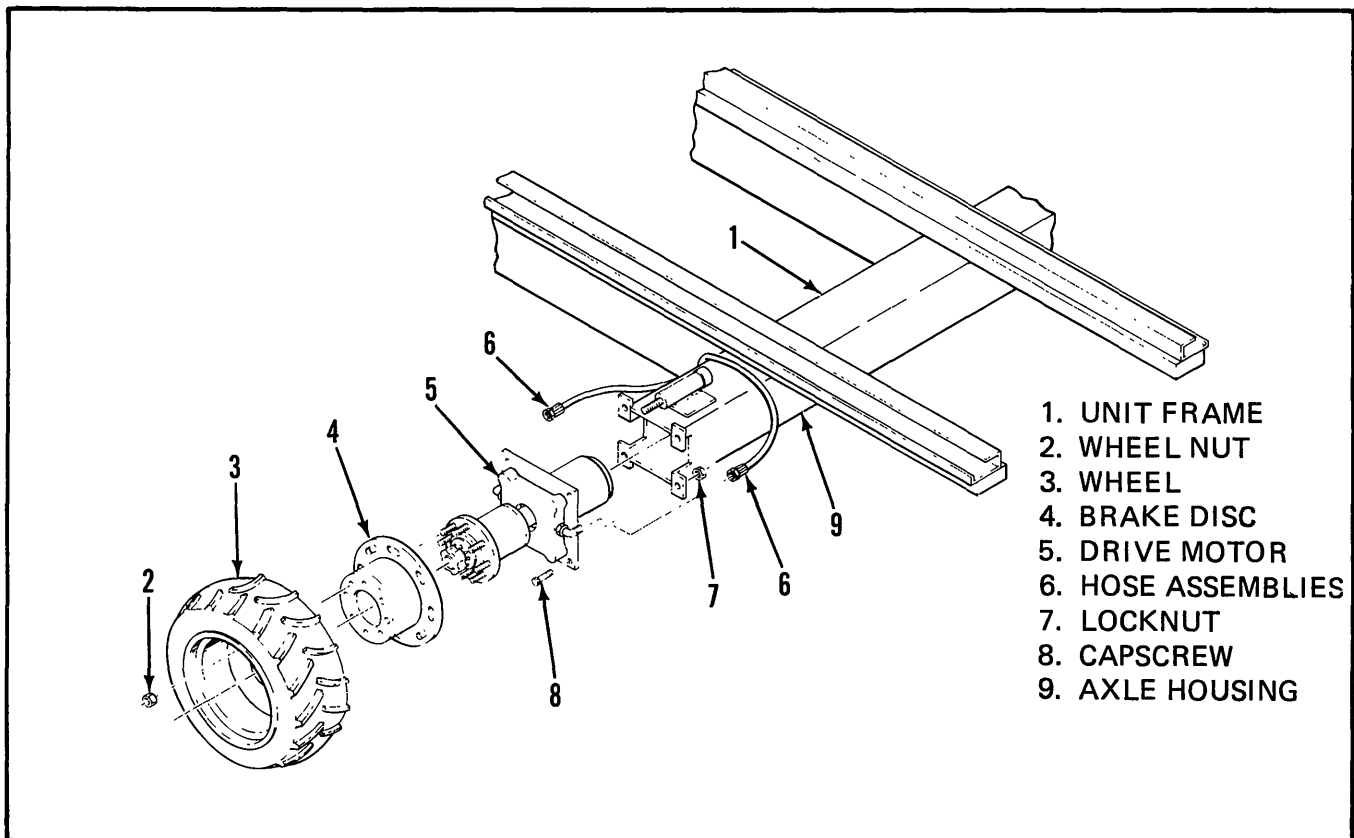

Figure 5-10. Drive Motor Removal (Optional)
a. Removal (Figure 5-10).
- (1) Park the machine on firm level ground then block the wheels to prevent the machine from rolling.
- (2) Use a 1.5 ton capacity jack to raise the desired rear corner.
- (1) Refer to Figure 5-10 and position the drive motor assembly (5) within the axle housing (9) and secure with locknuts. Torque the locknuts to 50 to 60 lb./ft.
- (2) Remove the plugs from the hose assemblies (6) and connect them to the drive motor (5).